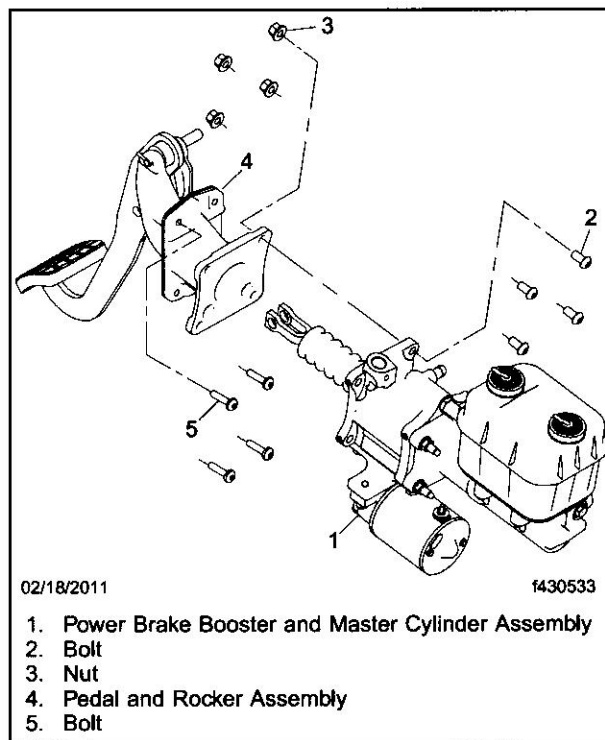

Fig. 6, Removing the Fixed Brake Pedal
1. Remove the cotter pin from the brake clevis and remove the clevis pin from the brake pedal. See Fig. 6.